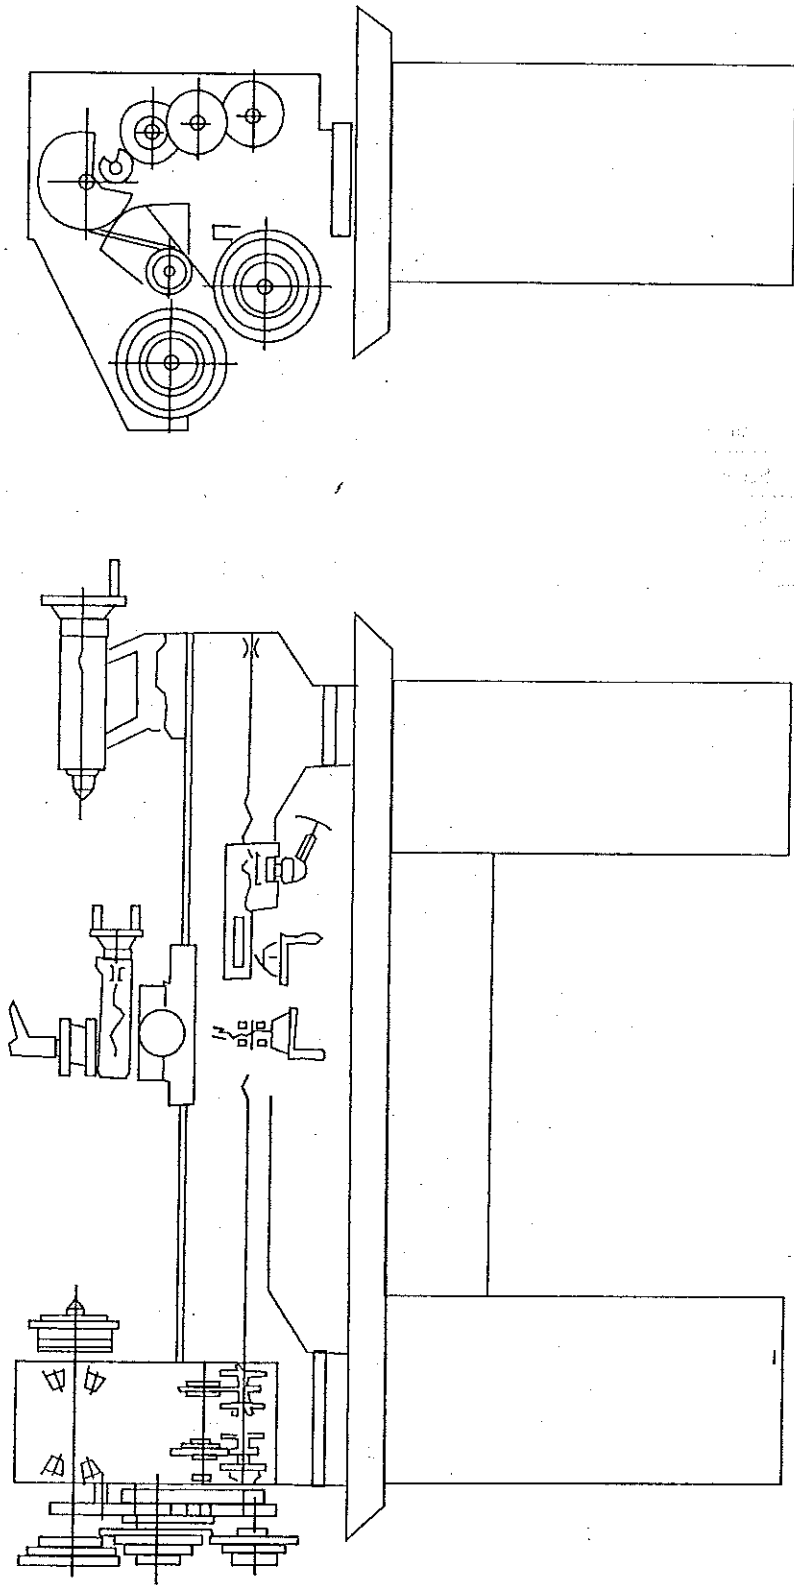

Fig.2 Transmission System And Bearing Distribution (Cq6125)
3.3 Fig 2 is the transmission system for CQ6125 with feed box. CQ6125 is same as HD250 except for the feed box. The parts in the feed box are shown in Fig.10.